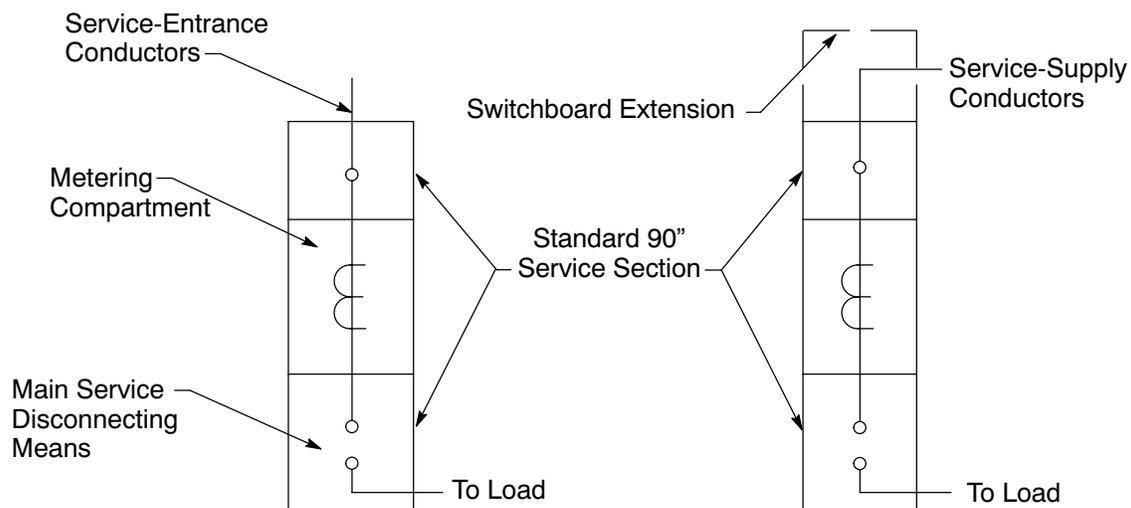

Figure 7-11
2. Typical switchboard service-section arrangements are illustrated in Figure 7-11, "Overhead, Service-Termination, Standard Switchboard Service Section (0 Through 600 Volts)," located below.
- When switchboards are served through cable conductors, the conductors must enter through the top of the switchboard. Figure 7-11 illustrates an extension that allows for horizontally incoming conduits from the side or rear of the standard switchboard service section.